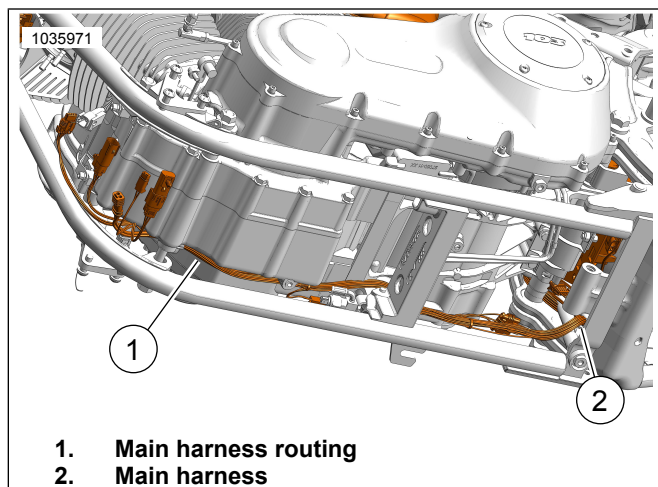

Figure 36. Harness Routing
16. See Figure 36. **Front oxygen sensor (long harness lead):**
- Locate main harness (2).
- Route harness along main harness (1) toward the front oxygen sensor connector.